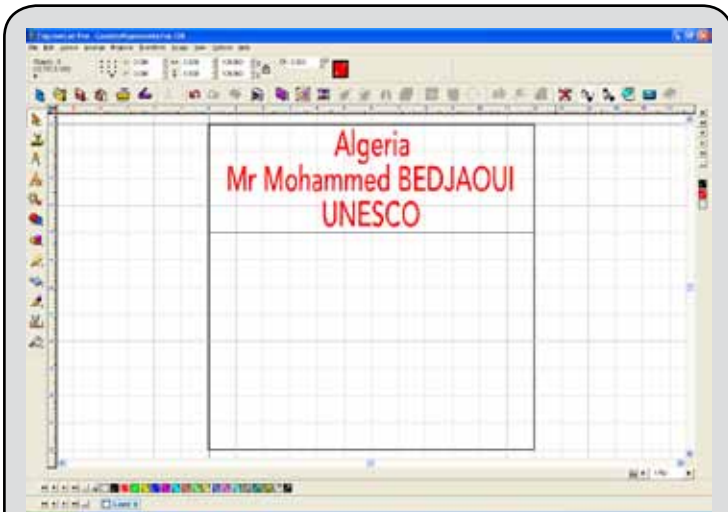

Fig. 43 - After badges have been created, the view will return to the EngraveLab workspace, where text substitution for each badge has occurred.
1. When the badges have been completed, the workspace will display the first badge in the series (Fig. 43).